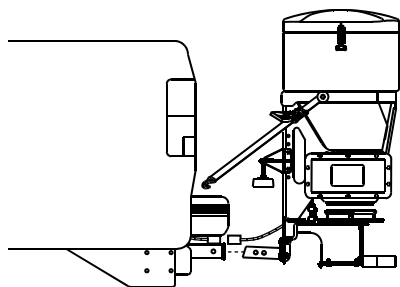

Figure 17
5. Slide the spreader out of the receiver hitch of your vehicle (Figure 17).